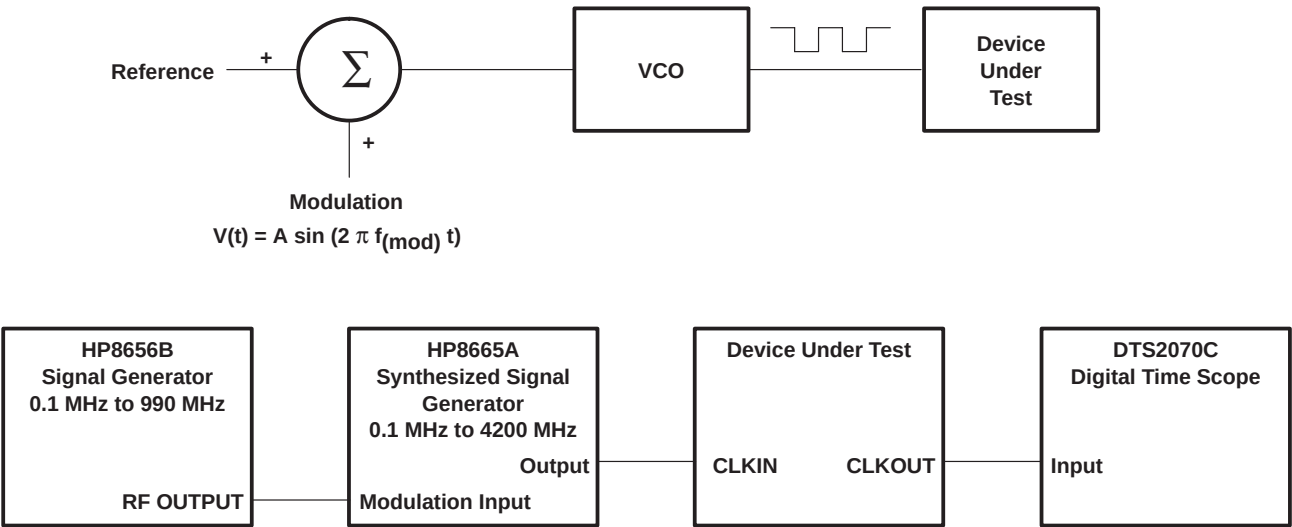

Figure 8. Output Clock Jitter Test Setup
| Δt C(0) Cycle time, change in output clock period#                         | t C = 15.38 + 0.75 sin(2π500E3t) ± 0.05 ns, See Figure 8 |     | ±80                 |     | ps   |
|                                                                                       | t C = 15.38 + 0.75 sin(2π3E6t) ± 0.05 ns, See Figure 8   |     | ±300                |     |      |